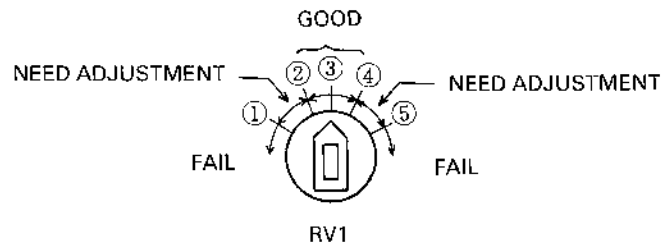

Fig. 19
- 3) As shown in Fig. 19, the position of the variable resistor RV1 is correspondent to the demodulated waveform during self-diagnostic test to seek the point ②. Where the message: